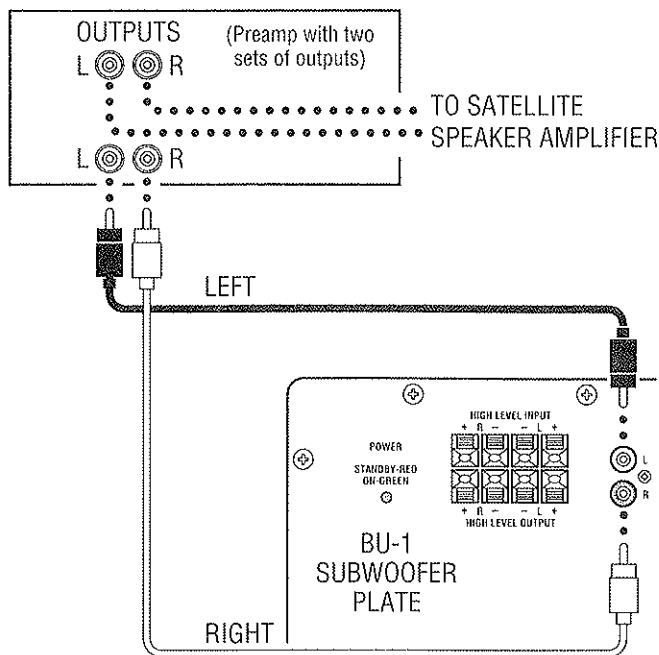
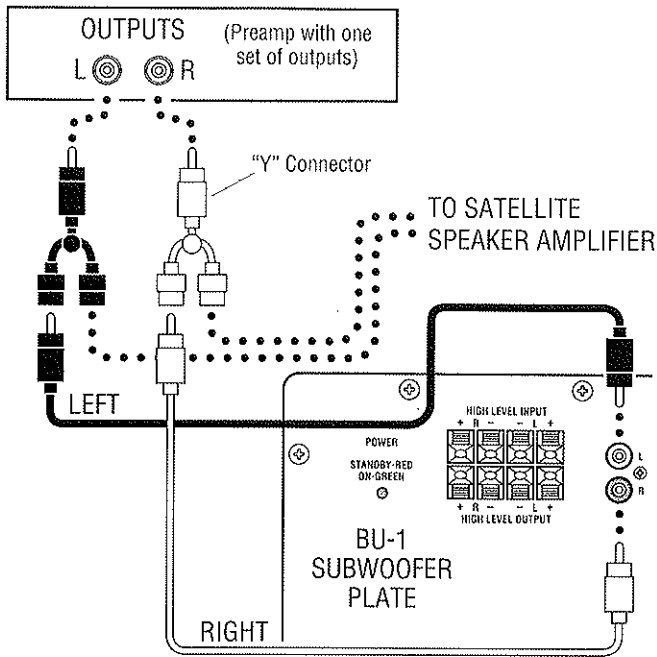

Figure 3a
Figure 3b
The BU-1 may be fed directly with a low level signal taken from your preamplifier's output by using the second set of output jacks on the rear of your preamplifier (*see figure 3a*). If your preamplifier has only one set of outputs you may use two (2) "Y" connectors (*see figure 3b*) to connect your subwoofer. Use standard shielded leads terminated at each end with male RCA connectors. Connect one end of each stereo pair of leads to your preamplifier's left and right outputs and connect the other end to the corresponding left and right LOW LEVEL INPUTS (1) on the subwoofer.